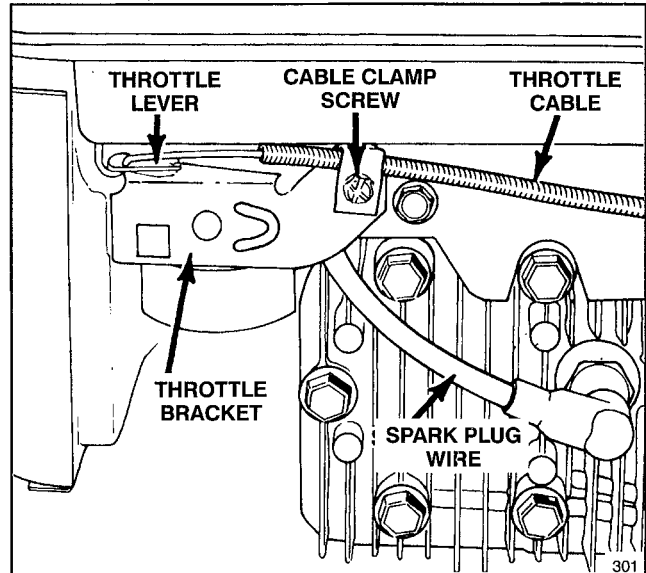
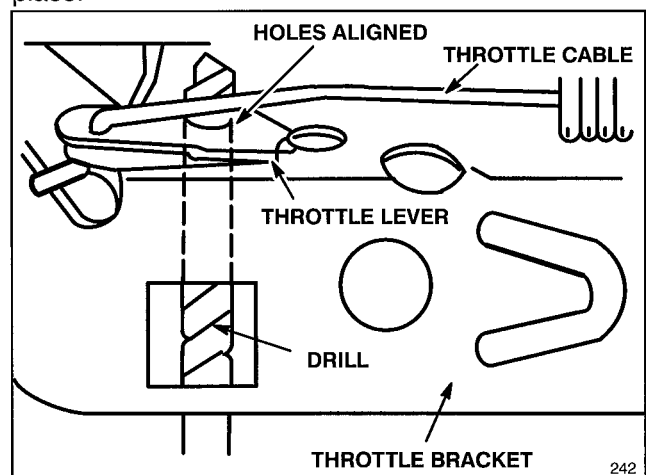

Figure 17
Figure 18
1. Stop engine and pull wire off spark plug (Fig. 17). Remove key from switch on electric start model.
3. Loosen cable clamp screw until throttle cable slides (Fig. 17). Align holes in throttle lever and throttle bracket using a 1/8" diameter drill (Fig. 18). Tighten cable clamp screw to lock adjustment in place.
**1.** Stop the engine. Pull the wire off the spark plug (Fig. 17). Remove key from switch on electric start model.